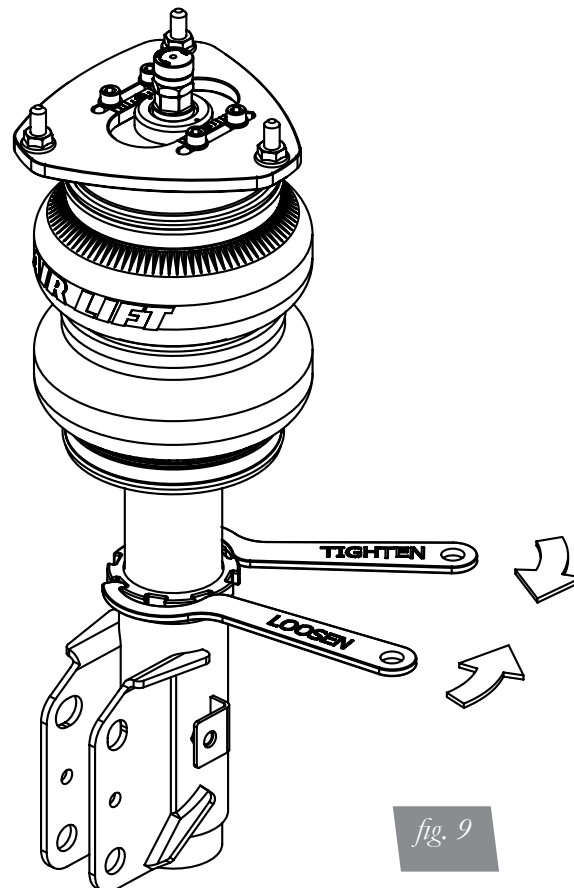

fig. 9
3. Using the supplied spanner wrench, loosen the lower locking collar. (fig. 9)